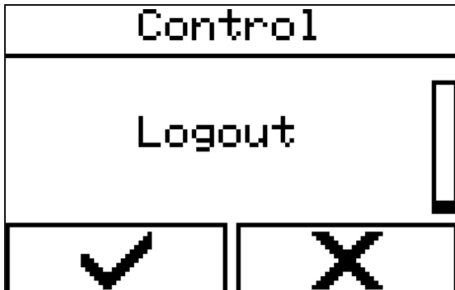

Fig. 135: Selecting a menu
- ➔ Select the menu via 'Control' → 'Logout' (Fig. 135).